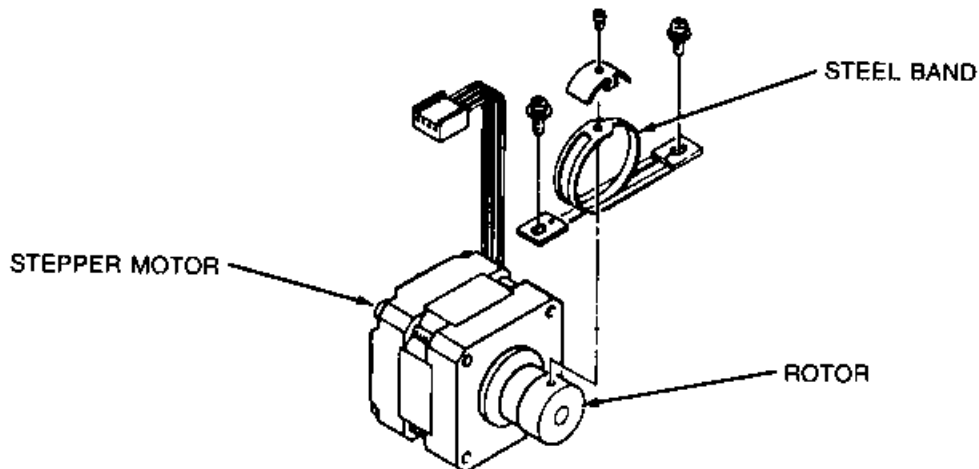

FIGURE 2-94. STEPPER MOTOR
2.6.4 Stepper Motor (Figure 2-94)